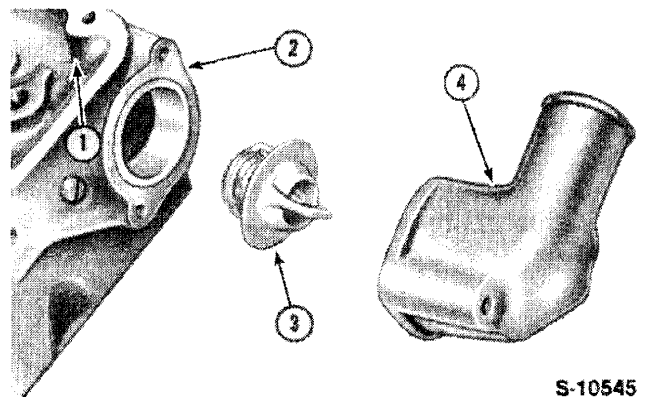

**Figure 4**
21. Lift the cylinder head from the block. If necessary, lever the head off the block at the pads provided, taking care not to damage the cylinder head or block surfaces, Figure 4.